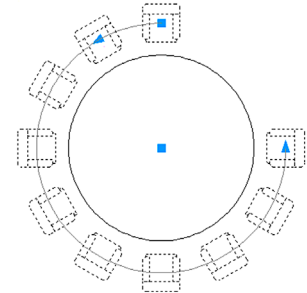

FIGURE 8.10 Fill Angle in progress.
- *Fill Angle*: This option (also via the triangle grip) changes the included angle, currently set to 360°. An example is shown in Fig. 8.10, where the fill angle has been rolled back to 270°.